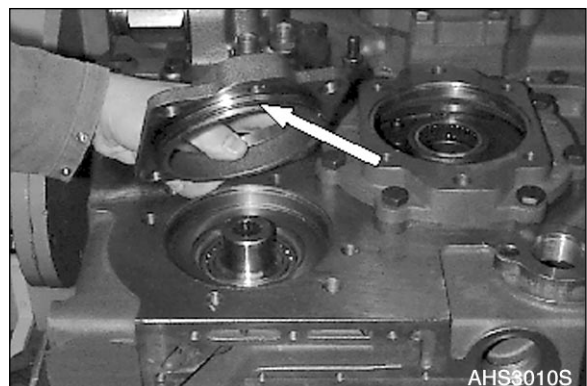

Figure 353
- Insert O-ring (Figure 353) into the annular groove and grease it. Fasten pump flange (power take-off) with hex. head screws.